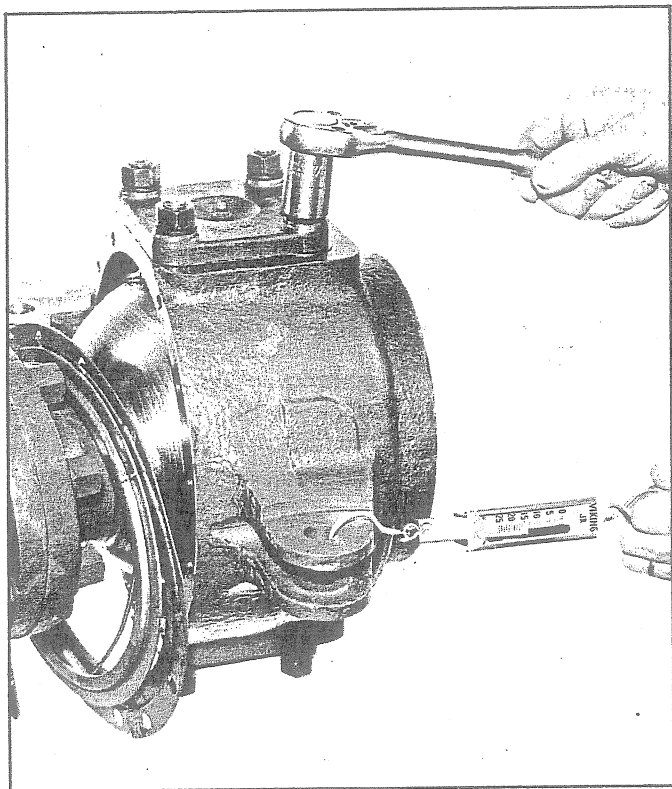

Fig. 21 - Checking Preload of Trunnion Bearings
11. Connect spring scale to the spindle support as shown in Fig. 21. Then tighten nuts on the upper trunnion evenly while checking preload with spring scale. Tighten nuts until spring scale reads between 12-18 lbs.